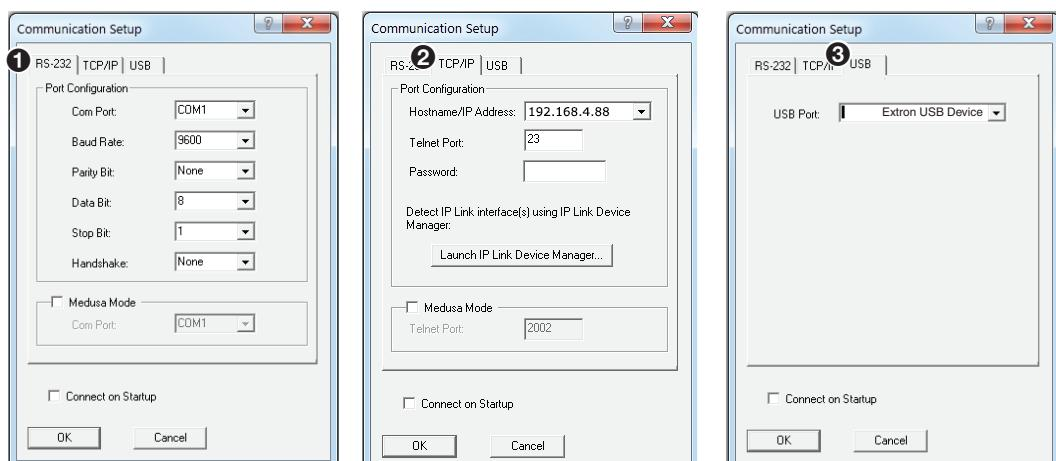

Figure 95. Communications Dialogs
- a. Select the **Comm Port (RS-232)** tab (see figure 95, ①) if using the rear panel RS-232 port.
- b. Select the **TCP/IP** tab (②) if using a network connection.
- c. Select the **USB** tab (③) if using the front panel config port.
3. On the **Communication Setup** window (see figure 95):